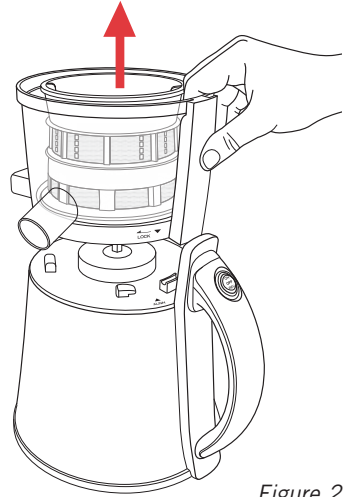

Figure 2
4. Turn the juicing bowl anti-clockwise to unlock and lift off the motor base for cleaning – figure 2.